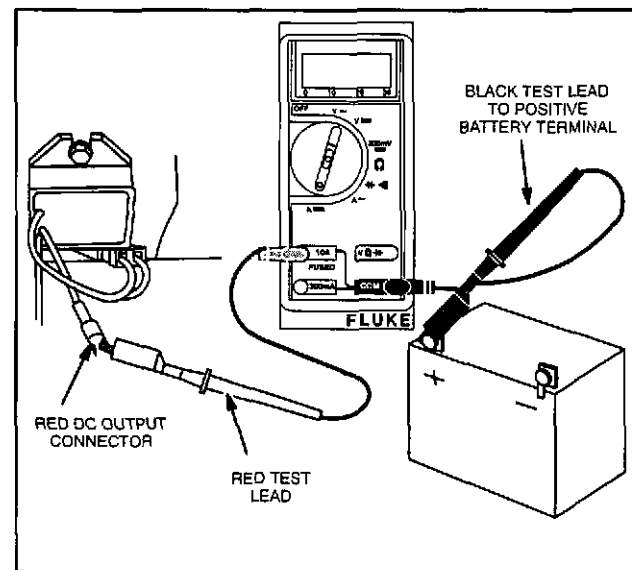

Fig. 23 - Testing Regulator-Rectifier
4. Attach RED test lead clip to red DC output terminal on regulator-rectifier, Fig. 23.